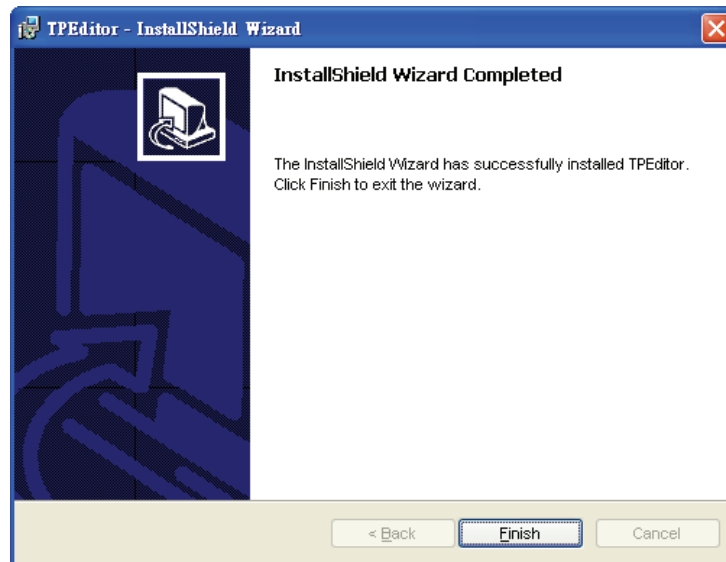

Figure 1-9
- Finally, click **Finish** to complete the installation (Figure 1-9).